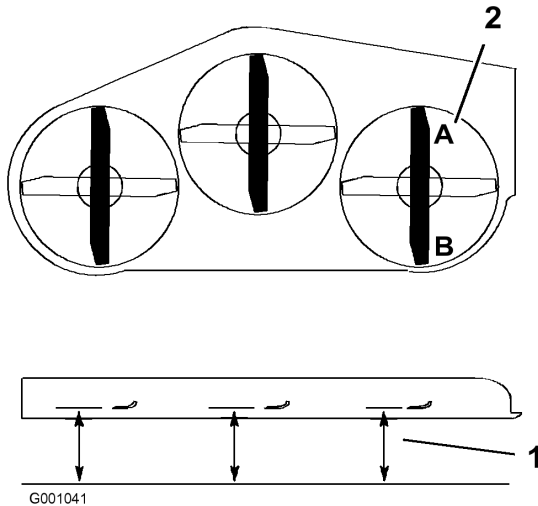

Figure 62
1. Position the right blade front-to-rear (Figure 62).
2. Measure the right blade at the **A** location, from a level surface to the cutting edge of the blade tip (Figure 62).
4. Measure the right blade at the **B** location, from a level surface to the cutting edge of the blade tip (Figure 62).
6. The mower blade should be a 1/4 to 3/8 inch (6 to 10 mm) lower at position **A** than at position **B** (Figure 62). If it is not correct, proceed to the following steps.